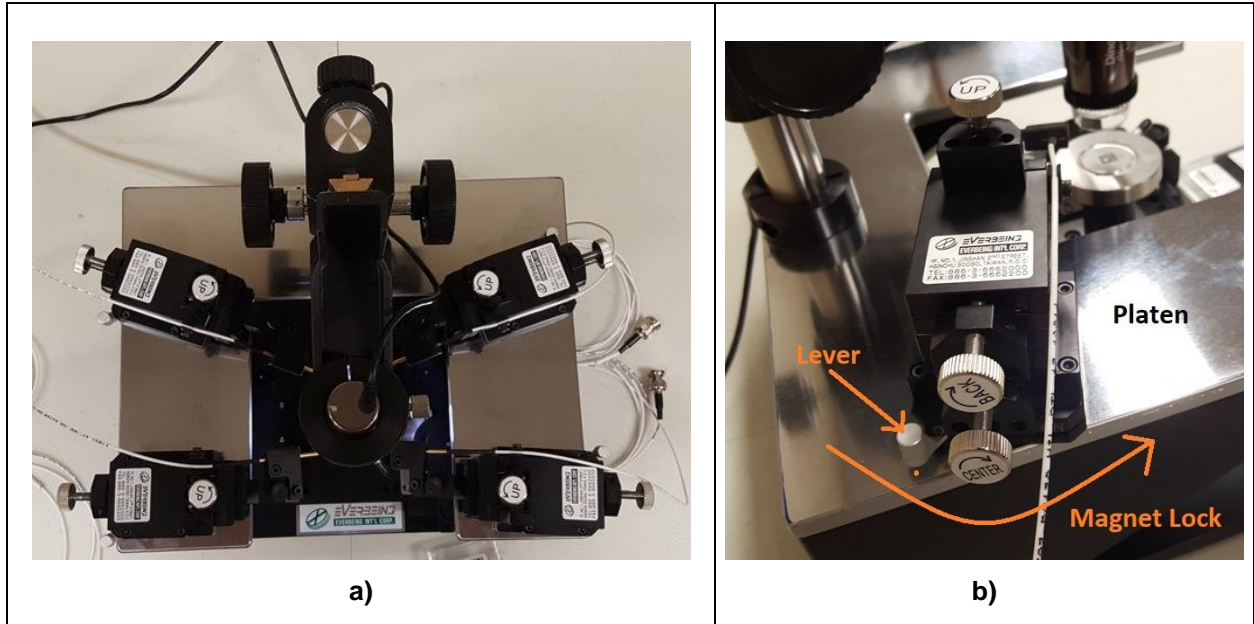

Figure 5: a) Positioner Arrangement, b) Magnetic Lock on Positioners
4. Place the probe positioners on the platen and lock them in place, as shown in Figure 5.